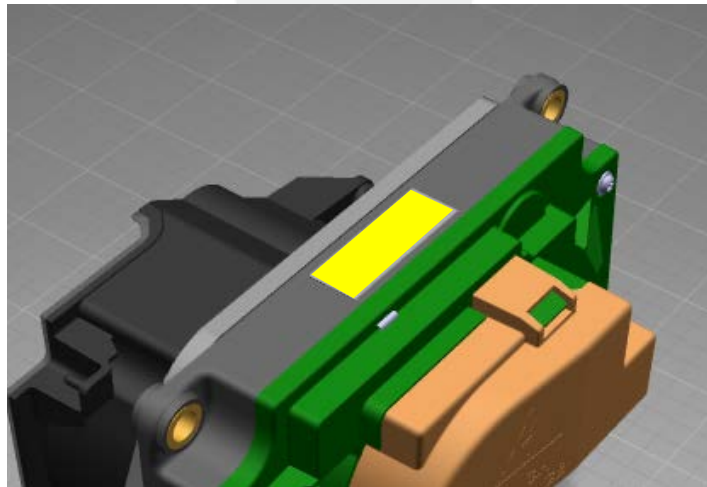

Figure 1 (Part number label highlighted)
2. Use a borescope to identify the revision level on the part number label at the top of the charge port (Figure 1).